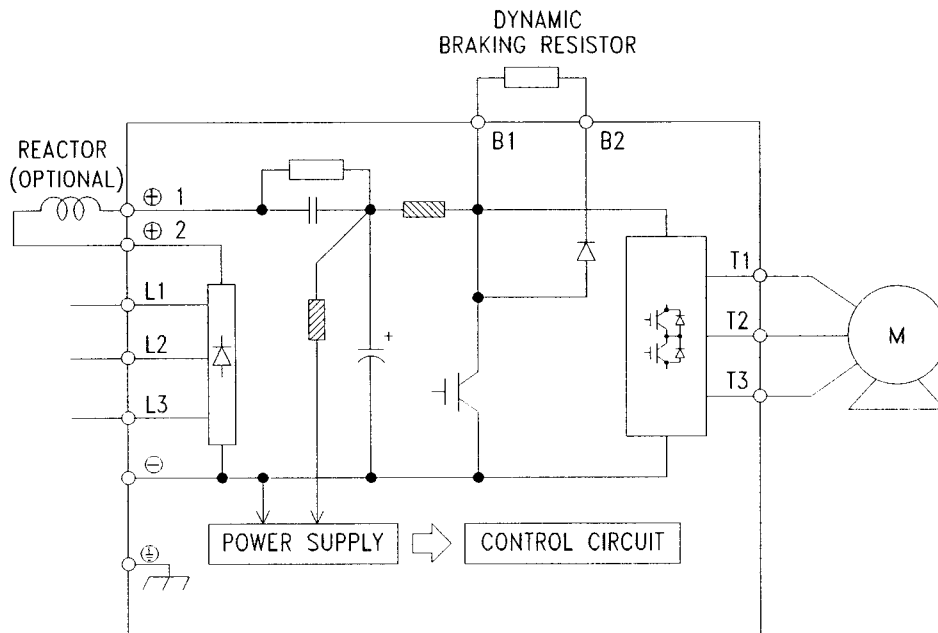
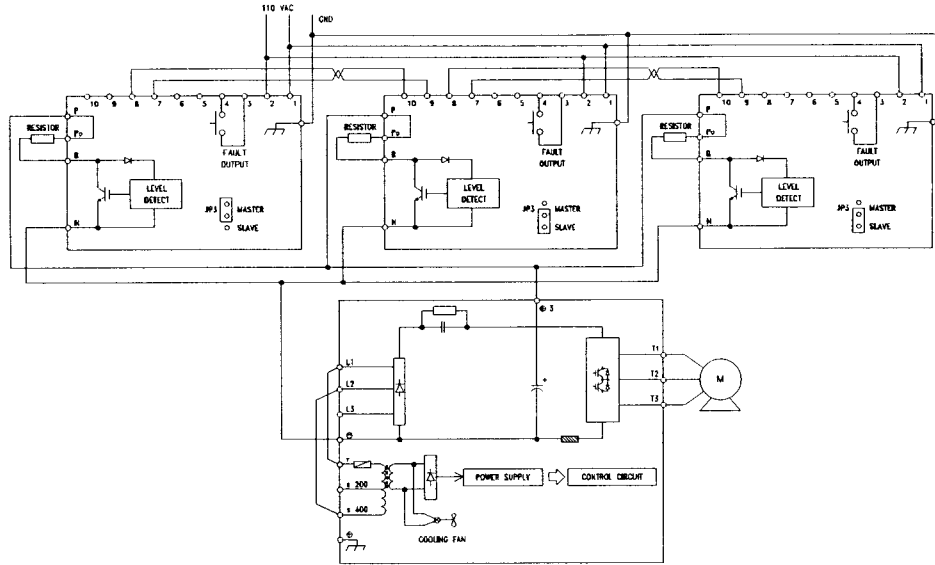
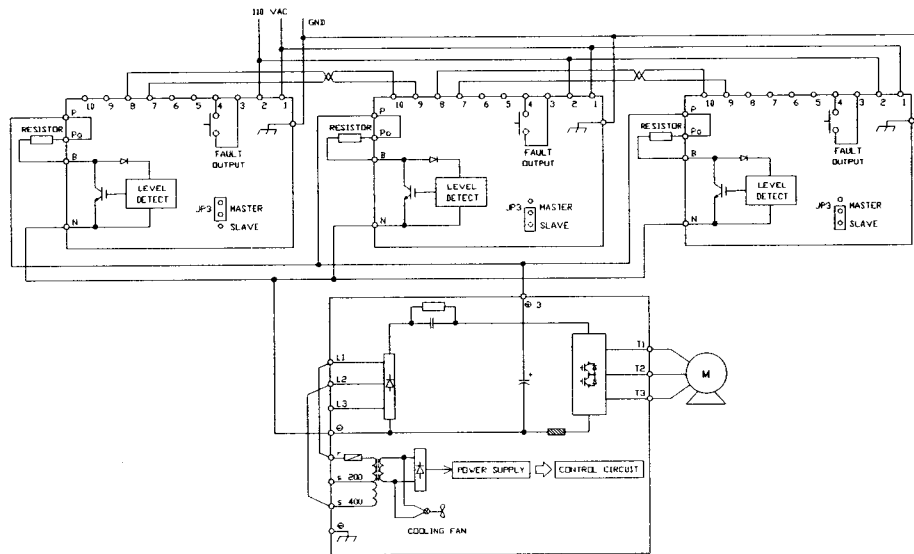
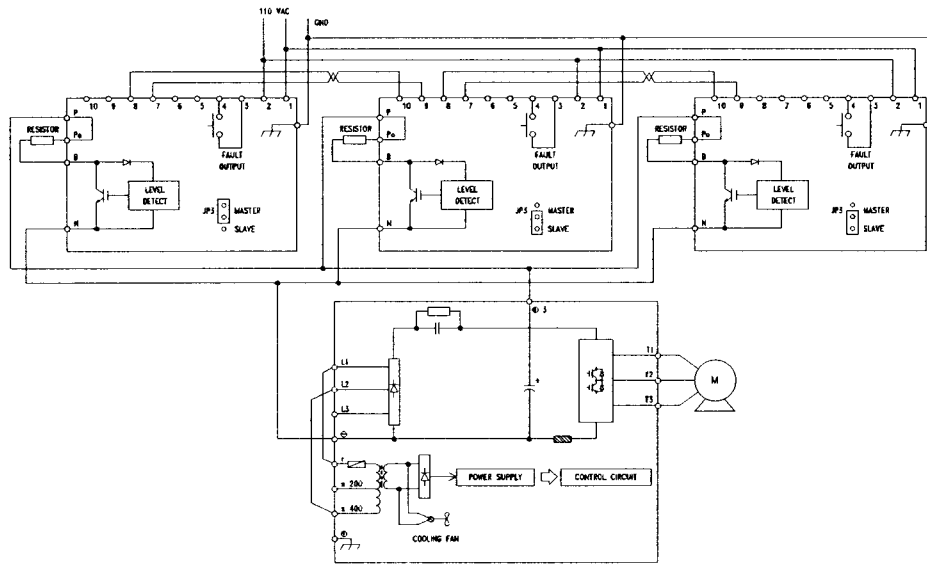

Figure 1.7: 2006-FVG+ and 2008-FVG+
Figure 1.11: 2130-FVG+ and 2300-FVG+
Figure 1.15: 4128-FVG+ through 4302-FVG+
Figure 1.16: 4450-FVG+ and 4605-FVG+
For applications that require more than one External DBU, wire the DBUs in parallel as shown in Figure 1.11: 2130-FVG+ and 2300-FVG+, Figure 1.15: 4128-FVG+ through 4302-FVG+, and Figure 1.16: 4450-FVG+ and 4605-FVG+.
9. Connect DBU terminals to the drive as indicated in “Detailed Power Circuits—By Model” (Figure 1.7: 2006-FVG+ and 2008-FVG+ through Figure 1.16: 4450-FVG+ and 4605-FVG+.)
11. Referring to Figure 1.7: 2006-FVG+ and 2008-FVG+ through Figure 1.16: 4450-FVG+ and 4605-FVG+, connect the dynamic braking resistor(s) as follows: